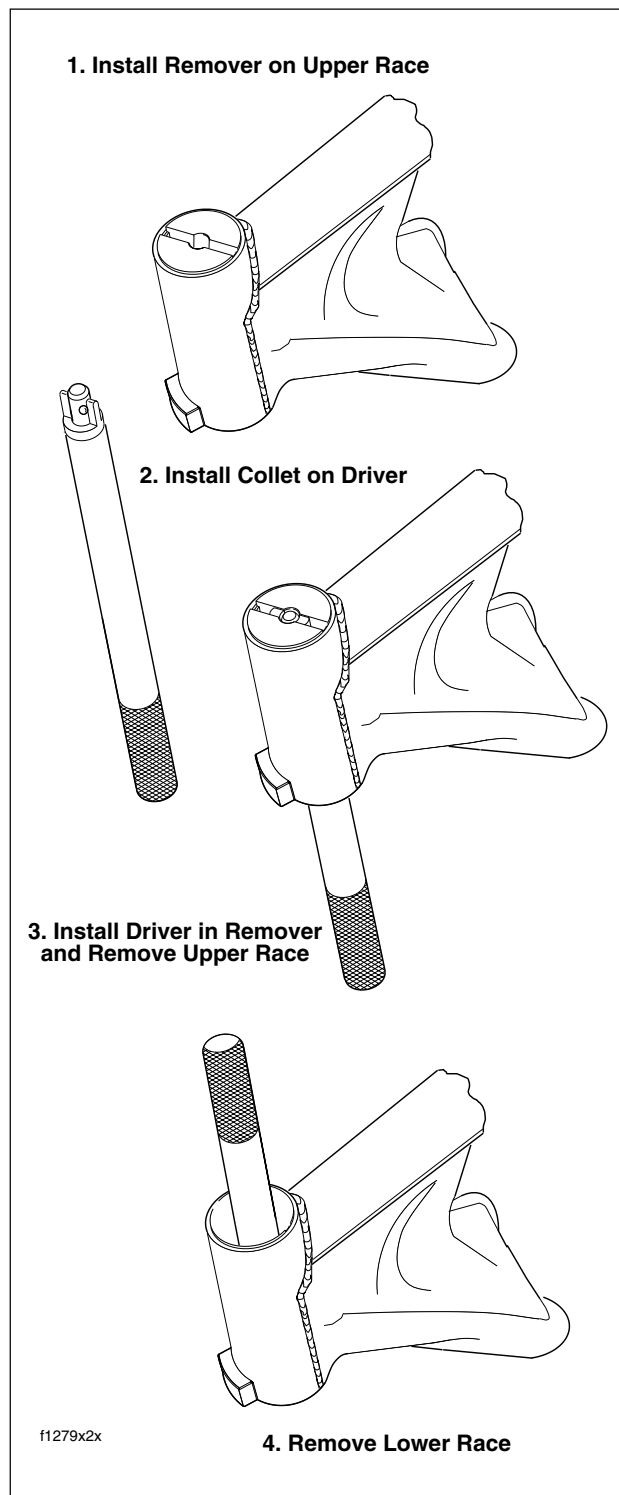

Figure 2-91. Remove Upper and Lower Steering Head Bearing Races
1. With the tapered side down, seat the two-piece remover tool on the upper bearing race leaving a gap in the middle. See Figure 2-91.